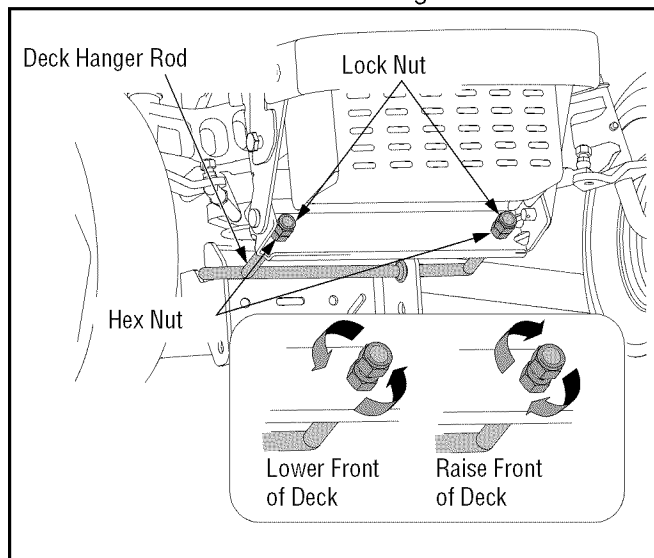

Figure 8
- From the front of the tractor, loosen the hex lock nut on each end of the deck hanger rod, and turn away from the inner hex nuts. See Figure 8.
- Tighten the inner hex nuts front against the front hanger bracket to raise the front of the deck; loosen the hex nuts to lower the front of the deck. See Figure 8.